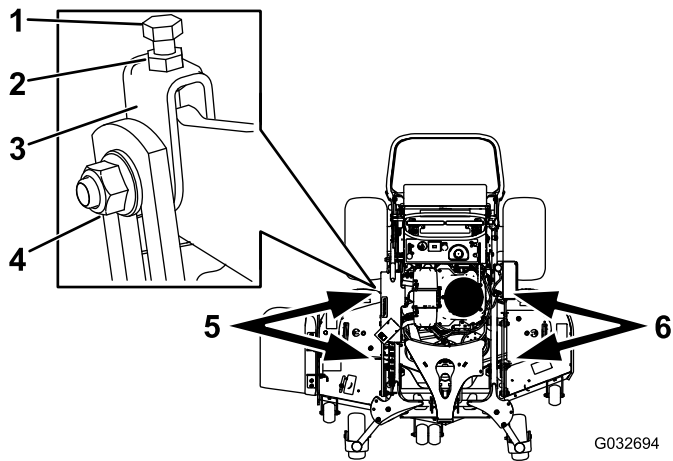

Figure 89
1. Loosen the side nut and jam nut in the yokes you want to adjust (Figure 89).
2. Rotate the top bolt of the yokes to adjust the height of the mower deck (Figure 89).